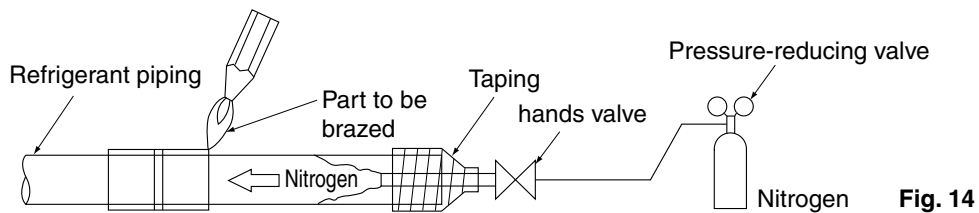

Fig. 14
2. Nitrogen should be set to 2.9 psi with a pressure-reducing valve if brazing while inserting nitrogen into the piping. (Refer to Fig. 14)